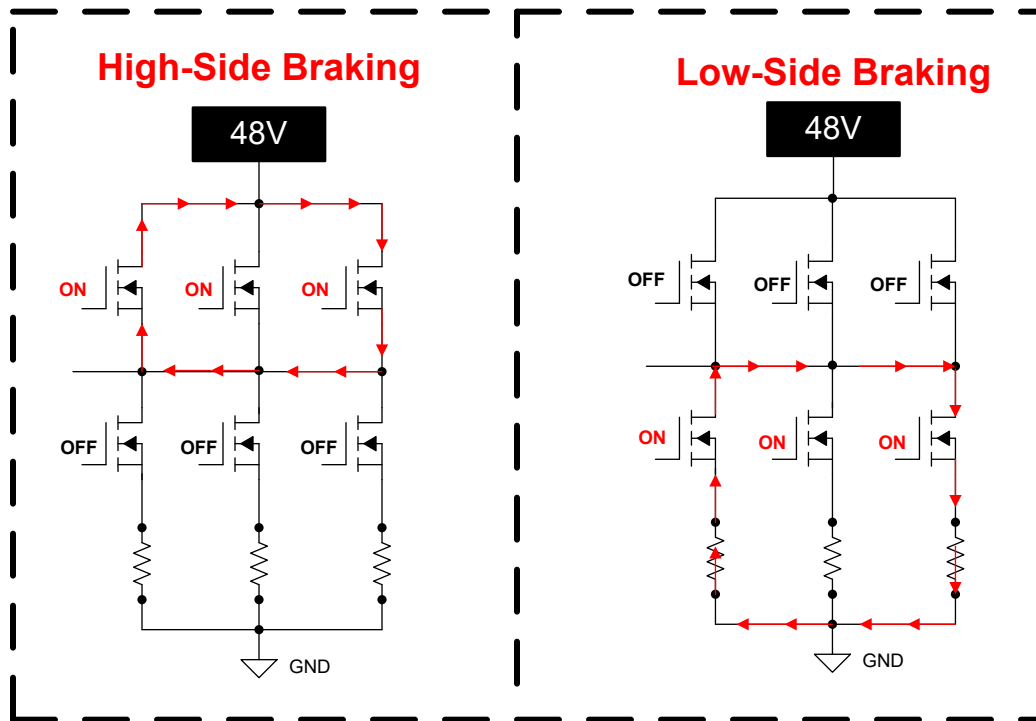

Figure 3. Active short circuit implementation: high side vs. low side
- **MOSFET thermal damage during braking.** In high-current brake scenarios, using either low- or high-side braking exclusively will result in MOSFET heating, as MOSFETs conduct continuously while current is dissipating. Figure 3 shows the current flow direction between the two brake modes.